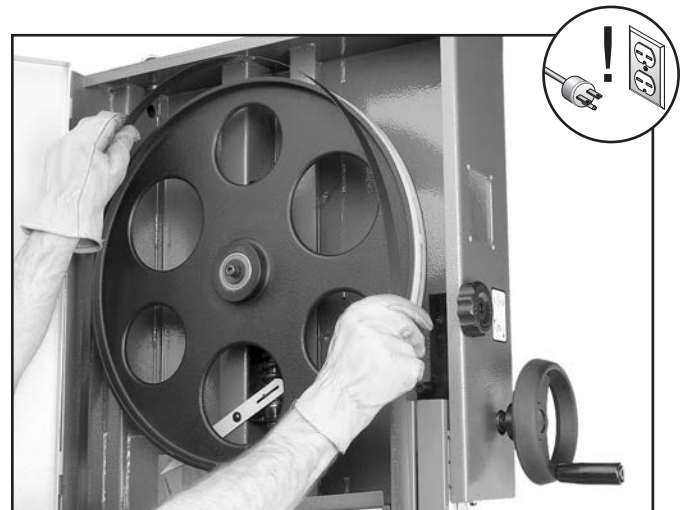

Figure 73. Placing blade on the wheels.
3. Slip the blade through the blade guides, and mount it on the upper and lower wheels (see **Figure 73**).